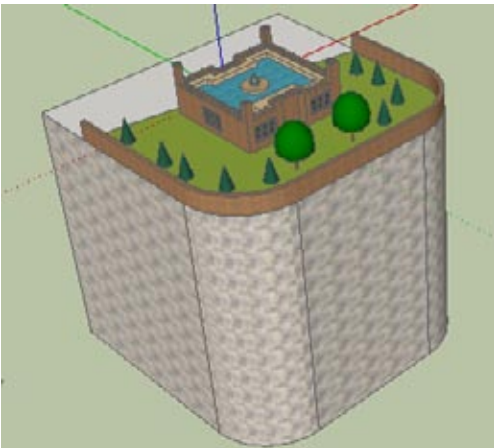

Figure 13-40
10. To make changes to the model, go back to Sketch-Up. Figure 13-40 shows some landscaping, added materials, and a parapet wall around the grounds. You could also move the model to a new location.